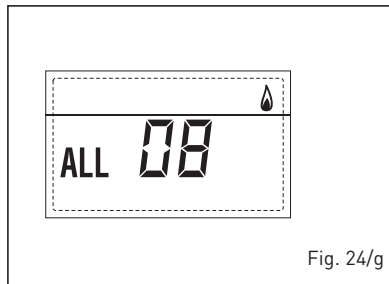

Fig. 24/g
- AUXILIARY SENSOR ANOMALY ALARM 10 (fig. 24/l)